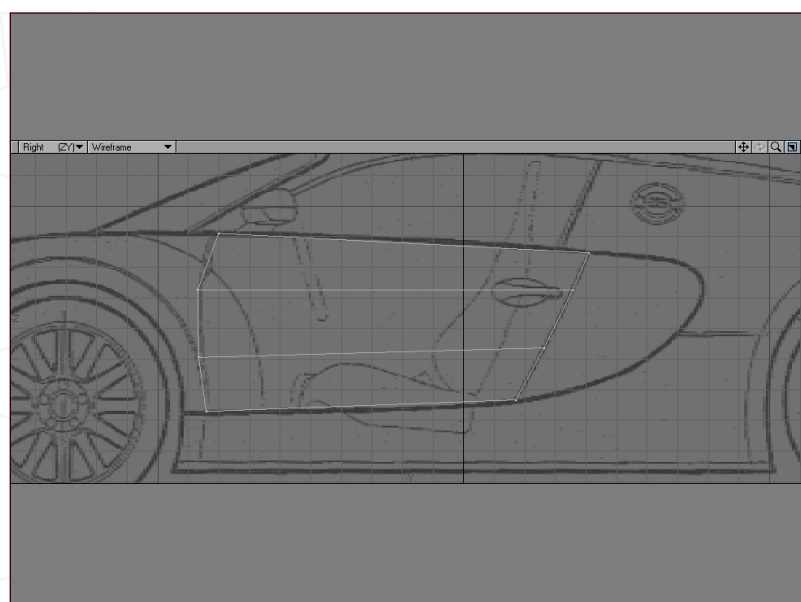

Fig 06
6. This will create sections that will allow the general curvature of the front and rear edges of the door to be outlined (**Fig06**).